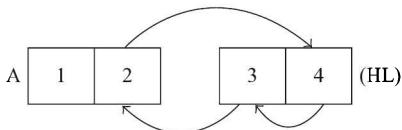

Fig. 27.6
**RLD instruction:** RLD stands for ‘rotate left digit’. It is a 2-byte instruction. The first byte indicates that it is a pure Z-80 instruction, and the second byte indicates that it is RLD instruction. It works on the contents of A register and the contents of memory pointed by HL. There are a total of four hex digits in A register and the memory contents pointed by HL. However, rotate left operation is performed only on three hex digits, leaving the MS hex digit in register A unchanged. It is shown diagrammatically in Fig. 27.6.